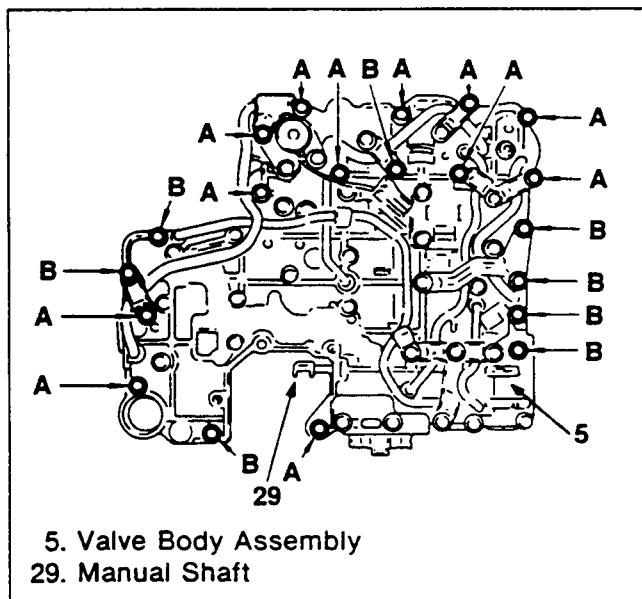

Figure 296. Valve Body Bolts Location
4. Install the valve body assembly by aligning the notch of the manual valve to the manual plate boss (figure 296).
- (A) shank 37 mm (1.46 in) 12 pieces
- (B) shank 50 mm (1.97 in) 8 pieces